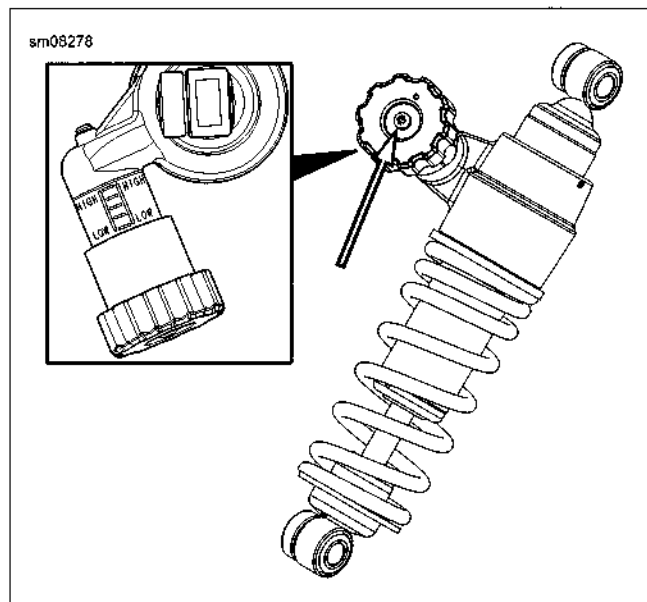

Figure 2-103. Preload Adjustment Knob Retaining Screw
4. See Figure 2-103. Remove the screw and flat washer securing the knob. Carefully remove the knob.